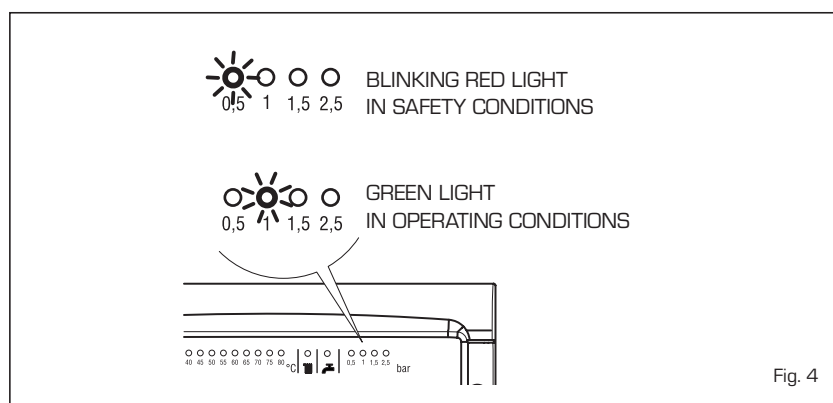

Fig. 4
- **Insufficient water pressure** (fig. 4)